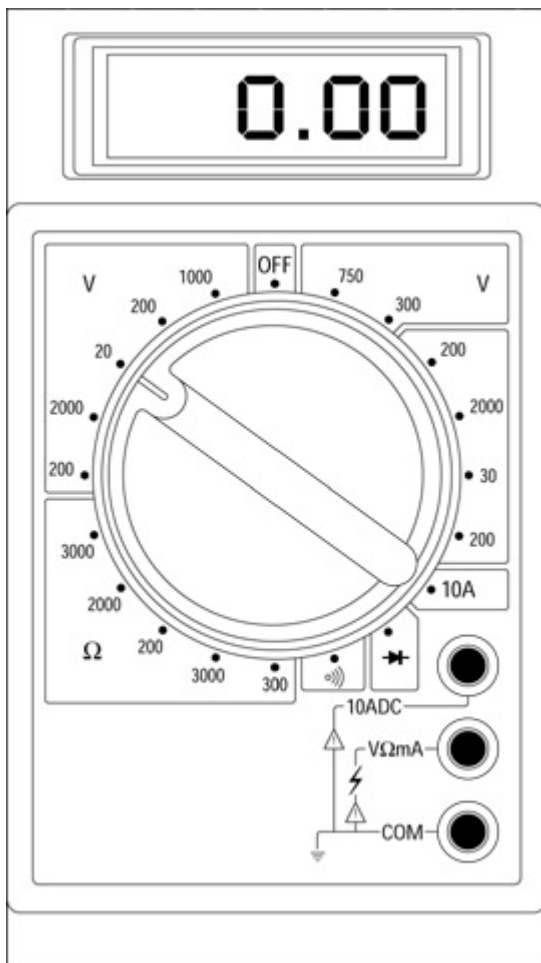
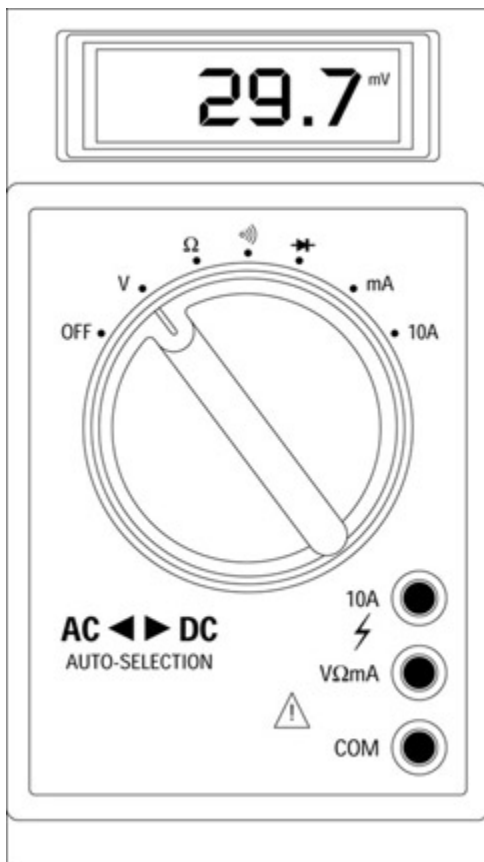

Figure 3-2: A multimeter is used to test and measure the electrical properties of the PC and its components.
Figure 3-5: A digital multimeter displays its results on an LCD display/
One of the primary troubleshooting and diagnostic tools in your tool kit is a multimeter, also known as a digital multimeter or digital voltage multimeter (DVM). On the A+ Core Hardware exam, it is referred to as a multimeter. This tool, shown in Figure 3-2, is used to test or measure a range of electrical properties of the PC. The multimeter is covered in greater detail in "Working with a Multimeter" later in the chapter.
A digital multimeter does not typically include a computer. The term digital means that the output numbers that represent the results of a measurement are displayed on an LCD (liquid crystal diode) screen. In other words, the results are displayed as digits, as illustrated in Figure 3-2 earlier in the chapter and in Figure 3-5 . There are handheld and desktop models, but most PC technicians prefer the handheld model for its portability.
- 1 **Switched range** : As illustrated in Figure 3-2 , this type of multimeter has a large central dial that must be set to the value appropriate to the measurement you are performing. For example, if you set the dial to a 20 VDC (volts direct current), then the highest value that will be measured is 20 volts. This is the setting you would use for most PC power supply systems, although on some of the newest systems, you may have occasion to use the 2 VDC setting to measure 1.3 volt circuits. The AC settings are used to measure alternating current--the power type that comes from the wall outlet. You probably won't use all of the settings available on your switched range multimeter. See Chapter 2 for more information on AC and DC power and Chapter 10 for information on the power supply FRM.